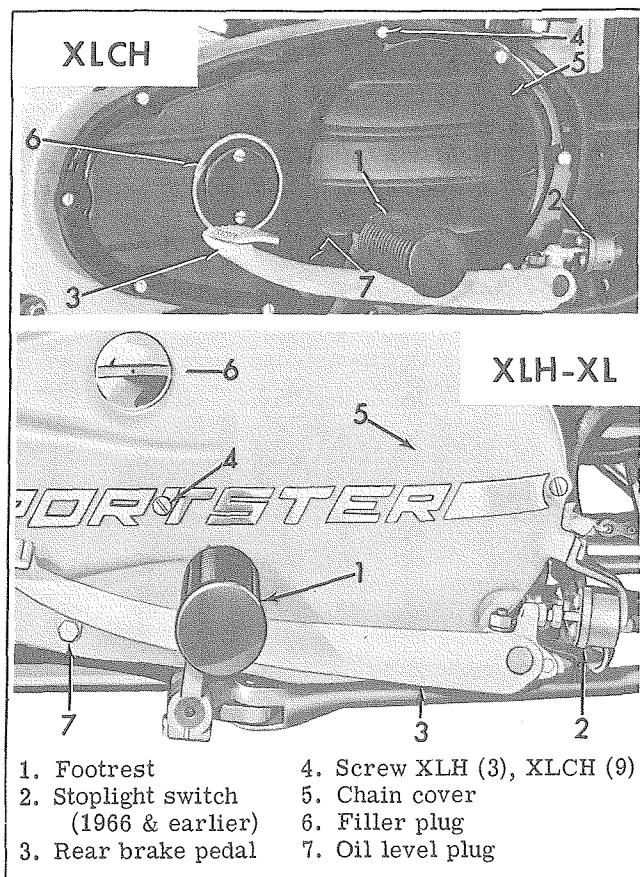

Figure 4B-7. Removing Front Chain Cover
(Fig. 4B-6)
When installing new cable, lubricate cable with grease as it is being inserted in coil (hand lever end). Correctly position upper cable end in hand lever anchor pin. When reassembling cable ferrule in hand lever anchor pin with side slot, be sure slot is toward inside as shown. Earlier type pin with slotted end should have open end facing downward. Insert felt seal retainer (14) and felt seal (16) on lower cable end. Insert cable end (3) on cable, 7-11/16 in. from lower ferrule as shown in Fig. 4B-6. Cut cable off at end (3). Spread cable strands in cable end countersunk hole and flow a hard solder in hole to securely join together. Engage cable end with fingers of lever. Install sprocket cover (2) with bolts (1). Install footrest, exhaust pipe and muffler and starter crank. Adjust clutch release mechanism as described under "Adjusting Clutch Release Mechanism."